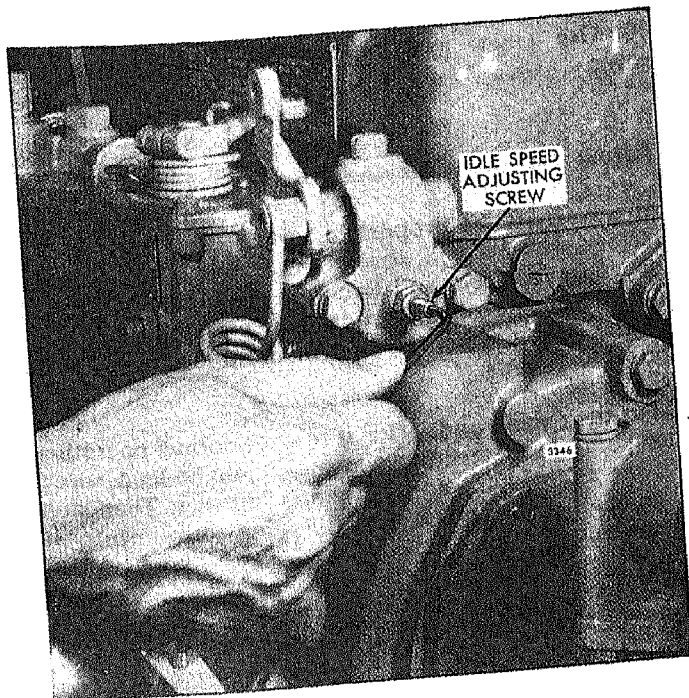

Fig. 6 - Adjusting Idle Speed
3. Loosen the lock nut and turn the idle speed adjusting screw (Fig. 6) until the engine is operating at approximately 15 rpm below the recommended idle speed.